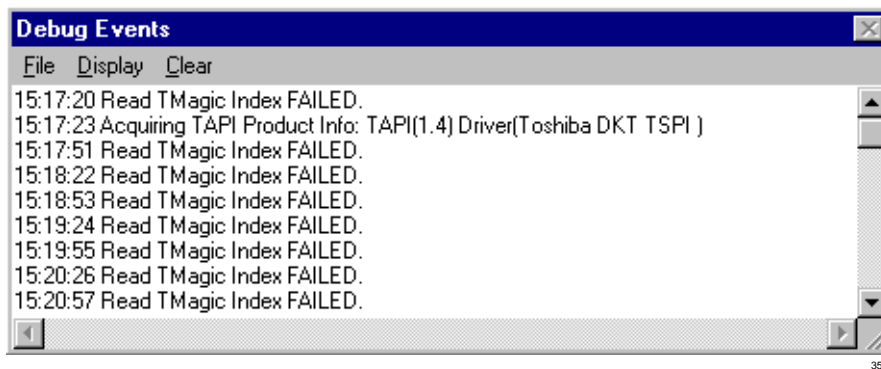

Figure 13-15 Debug Events ScreenTelephone System Events
- ◆ Show Events opens a Debug Events screen which shows real-time events as they occur (see Figure 13-15). The Display option enables you to choose which event you will monitor.